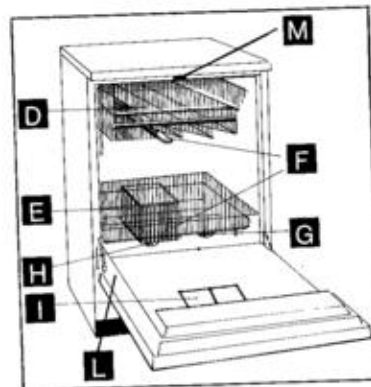

Fig. 3
**ATTENTION: LES CARACTERISTIQUES ELECTRIQUES SONT INDIQUEES SUR LA PLAQUETTE SIGNALETIQUE L (FIG. 3)**